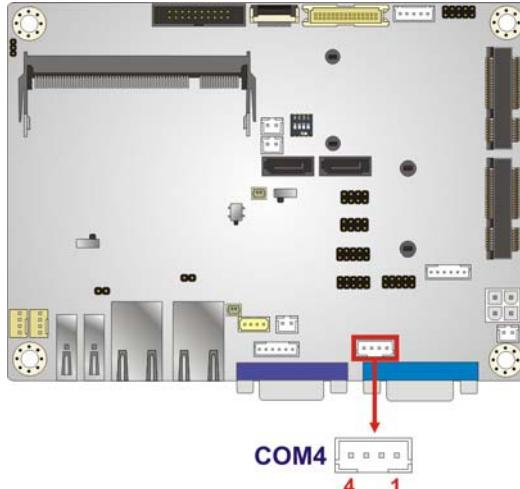

Figure 3-20: RS-422/485 Connector Location
**3.2.19 RS-422/485 Serial Port Connector****CN Label:** COM4**CN Type:** 4-pin wafer, p=2.00 mm**CN Location:** See Figure 3-20**CN Pinouts:** See Table 3-18